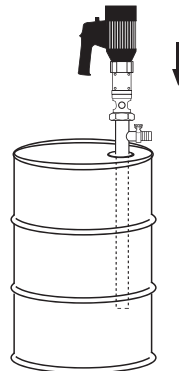

Figure 2
1. Once the pump is fully assembled and all connections are fastened, insert the pump into the drum or tank (see Figure 2).